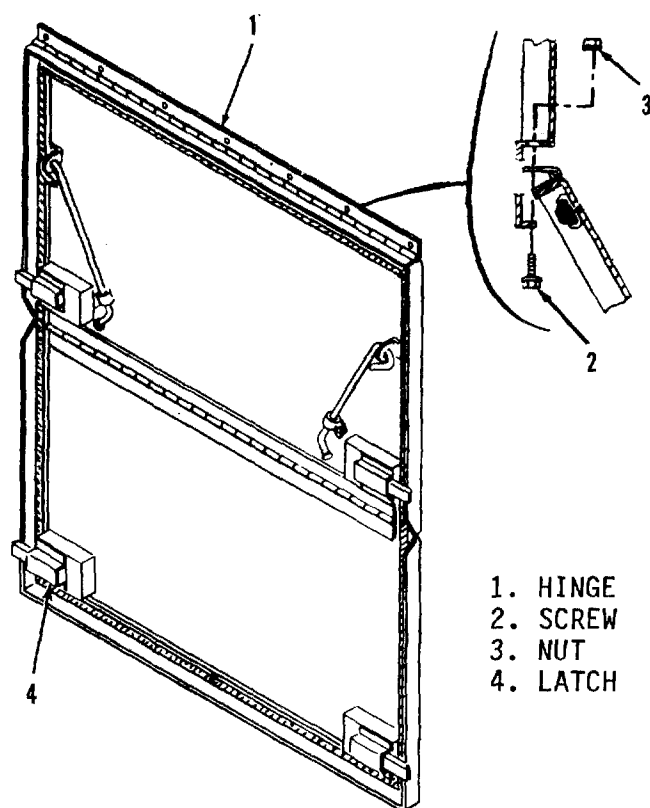

Figure 3-3. Hinges and Latches (Typical)
- a. Remove screws (2, figure 3-3) and nuts (3) that secure top part of hinge (1) to frame.
- a. Remove defective latch (4, figure 3-3) from access door.